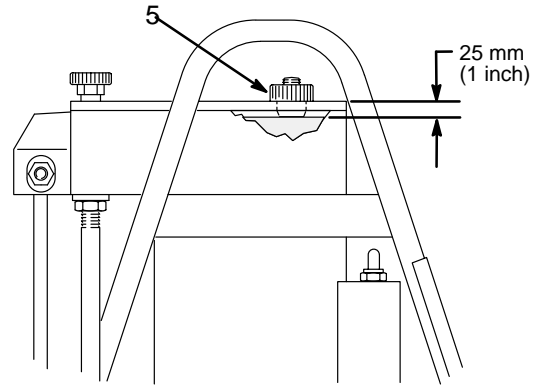

Fig. 1 0269
4. **Check the hydraulic oil level.** Unscrew the fill cap (5). The oil should be 1 inch (25 mm) from the top of the plate. If the oil is low, fill as necessary with light-weight hydraulic oil; use only Graco Hydraulic Oil, Part No. 218–797. Install the fill cap. See Fig. 1.